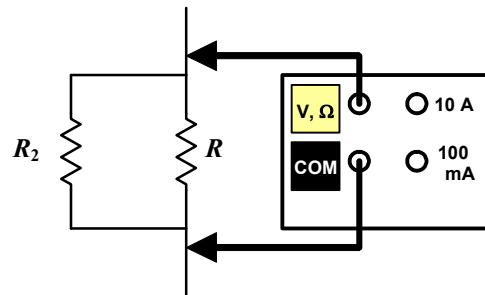

Figure E.5 Measuring the resistance of the parallel combination of R and R_2 . To measure R alone, remove it from the circuit (here, disconnected from R_2).
2. **Isolate the resistor (remove it)** from the circuit to ensure that you are not measuring a parallel combination of some other resistances, as illustrated in **Figure E.5**. (Note: the resistor does not need to be removed from the proto-board, but must be removed from the circuit).